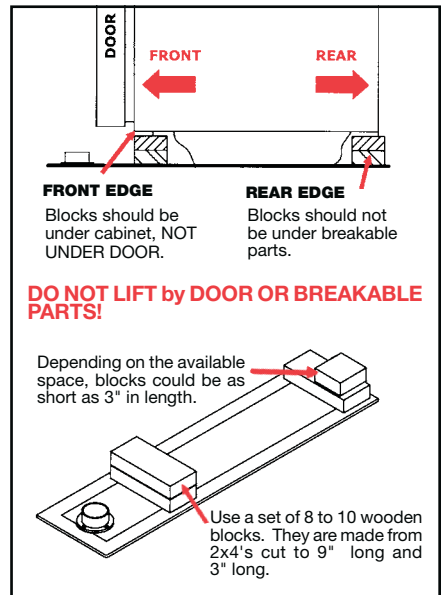

Figure 10
- Once the best points for lifting have been determined, create a custom set of wooden blocks that will support the appliance as necessary. These are to be placed on top of the air plate, and then the air plate can be slid under the appliance. (See figure 10.)
- At the rear edge, the available space may be limited. You may need to use a narrower block (no narrower than 3") on top of a wider base block (9"). (See figure 10.)